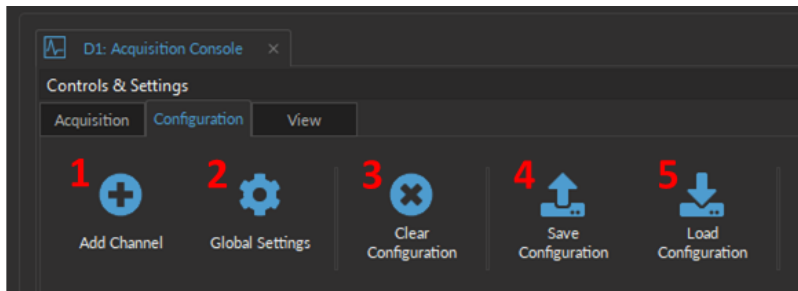

Figure 3.7: Configuration Tab
1. The **Add Channel** button (Fig. 3.7, 1) opens the **Channels configuration** window. How to *add* and *configure* a channel is detailed in Section 3.4. Table 3.1 describes different types of channels available, their use cases and their individual sections.
2. The **Global Settings** (Fig. 3.7, 2) opens the **Global Options** window in Fig. 3.8, where user can set the acquisition sampling rate and specify the master trigger options. See Sections 3.3.2.1 for more details.
3. The **Clear configuration** button (Fig. 3.7, 3) resets the acquisition view and all other parameters set. Any configurations not saved will be lost.
4. The **Save configuration** button (Fig. 3.7, 4) allows a console configuration to be saved in the **.doric** format. This file preserves the current channel configuration/parameters, the Acquisition View window organization, and any custom trace colors and names.
5. The **Load configuration** button (Fig. 3.7, 5) imports a pre-configured **.doric** file into the module.